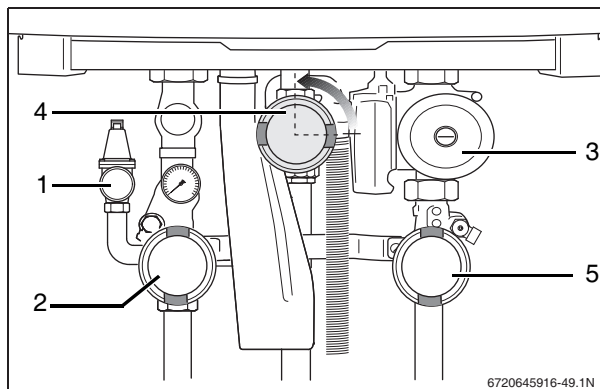

Fig. 49 Open the gas valve
- ▶ If 0.5 psi (34.45 mbar) or less, slowly open the gas valve by pushing on the gas valve and turning it ¼ rotation in a counter-clockwise direction (fig. 49). The gas valve is open when it is in the vertical position.